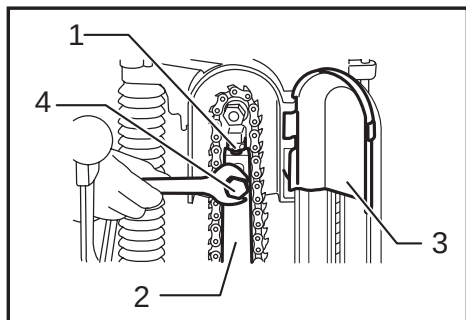

Fig.3
► **Fig.3:** 1. Adjusting screw 2. Chain bar 3. Chain cover 4. Hex bolt